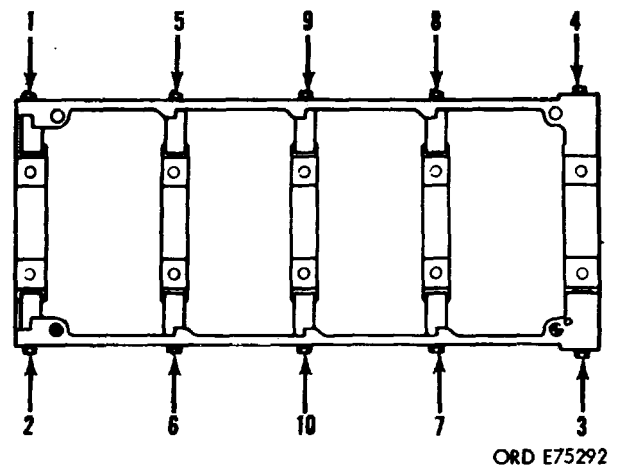

Figure 3-8. Side bolt tightening sequence.
o. Refer to figure 3-8 for bolt tightening sequence. Torque each bolt to 70-75 foot-pounds 35-40 foot-pounds increments.